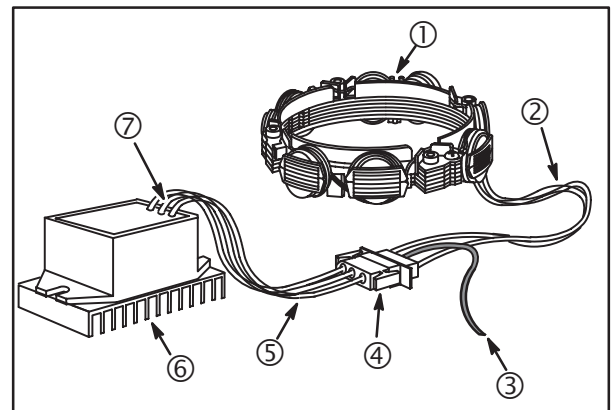

Fig. 30
- Stator assembly (1), Fig. 30.
- Two YELLOW leads (2) from stator.
- RED DC output lead (3) from connector.
- Connector (4).
- Two YELLOW AC input leads (5).
- Regulator-rectifier (6).
- RED DC output lead (7) to connector
**NOTE:** Stator (1), regulator-rectifier (6) and fly-wheel are **NOT INTERCHANGEABLE** with any other charging system.